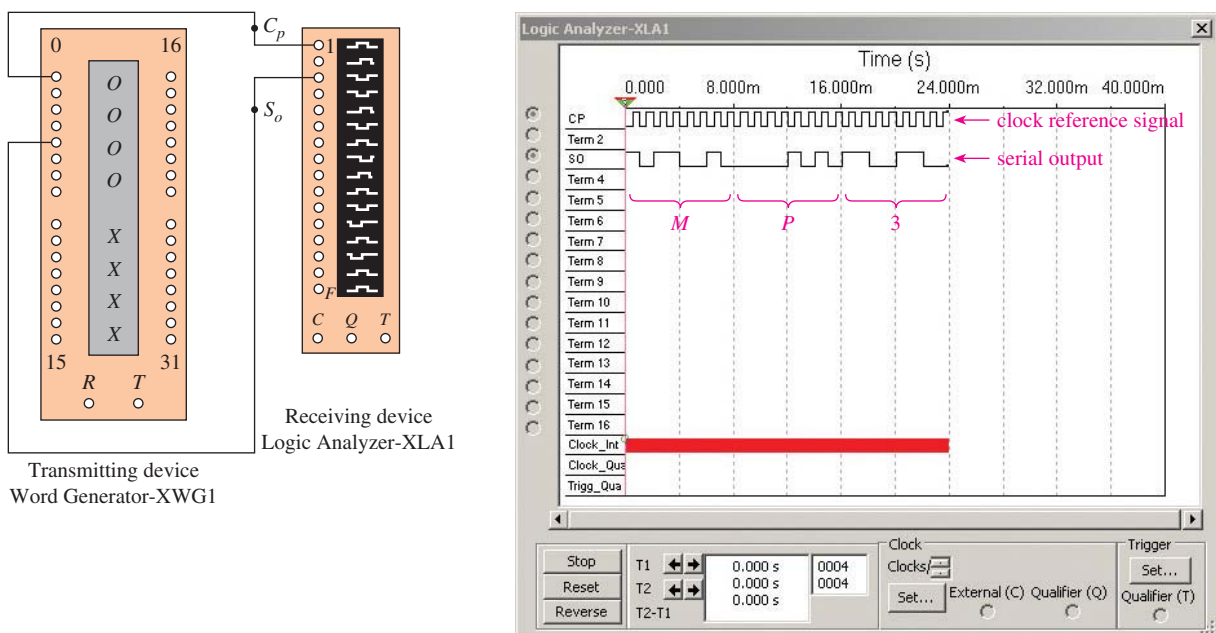

Figure 11 A MultiSIM simulation of the serial transmission of the ASCII characters MP3.
Figure 11 shows a MultiSIM simulation of the transmission of the three ASCII characters MP3 from a transmitting device (the Word Generator) to a receiving device (the Logic Analyzer). ASCII characters are generally transmitted most significant character first (but with the LSB of each 8-bit code coming first). The top trace in the Logic Analyzer displays a clock reference waveform (CP) of 24